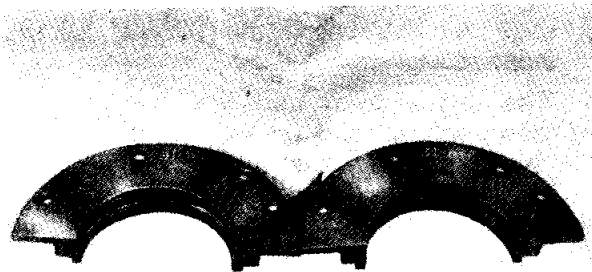

Fig. 32 Rear Oil Seal for Crankshaft. These are a mated pair and should not be separated.
- (i) Check that the two halves of the rear oil seal bear the same number (Fig. 32).